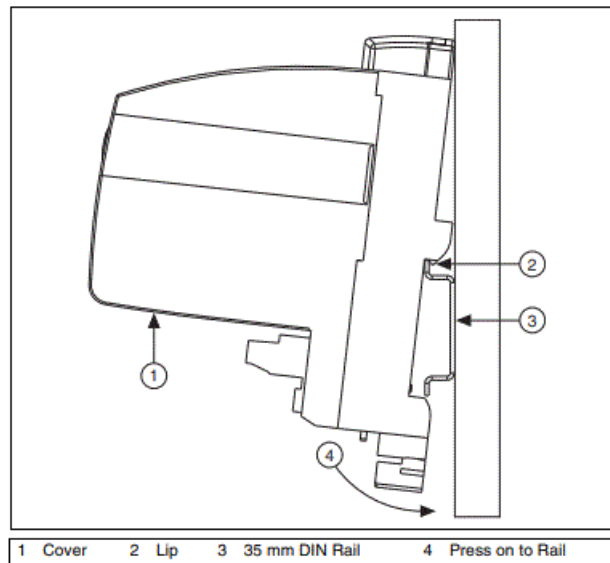

Figure 6. Mounting the FBUS-HSE/H1 LD on a DIN Rail
2. Hook the lip on the rear of the FBUS-HSE/H1 LD onto the top of a 35 mm DIN rail and press the FBUS-HSE/H1 LD down onto the DIN rail, as shown in Figure 6.